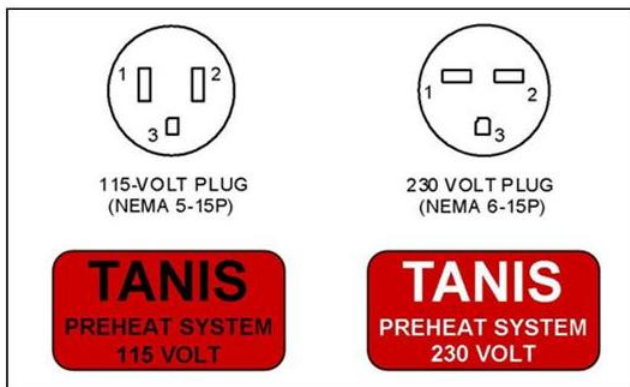

Figure 1 Shore power plug types and placards
- 3) [☐] Verify Tanis system ground by checking for continuity between shore power plug ground, pin 3 (Figure 1), engine, and airframe.